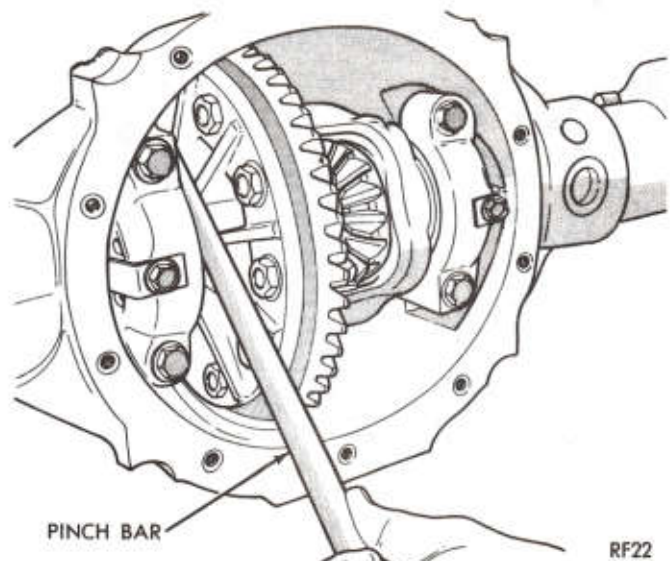

Fig. 10—Checking Differential Side Play
(8) Measure for differential side play. Position a screwdriver or pinch bar between left side of axle housing and differential case flange, then using a prying motion determine if side play is present. **There should be no side play.** (Fig. 10).